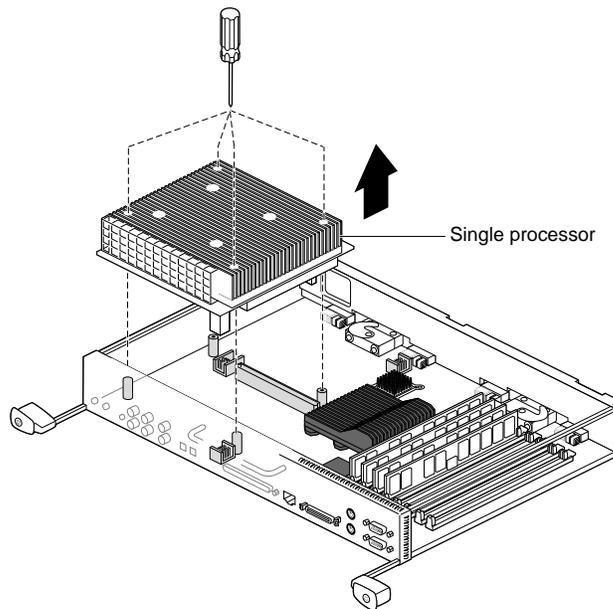

Figure 2-11 Removing a Single Processor
1. Loosen the four captive slotted screws holding the CPU in place, as shown in Figure 2-11 (the dual processor has six captive screws).